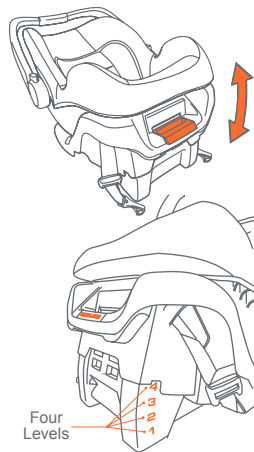
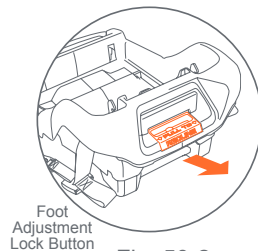

Fig. 50-1
Fig. 50-2
- To extend the foot of the base, Pull outward on the hand hold as shown in (Fig. 50-1) while holding onto the base. To retract the foot, pull outward on the lock handle as shown in (Fig. 50-2) and push upward on the foot. Be careful not to pinch your finger as the foot retracts. Check the level indicator to see if the seat is now level.